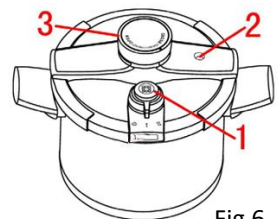

Fig.6
✘ Using our products to feel at ease, we designed and equipped multi-device for safety. (Fig. 6)
2. Setting multi-device ensures pressure cooker working normally. (Fig. 6)